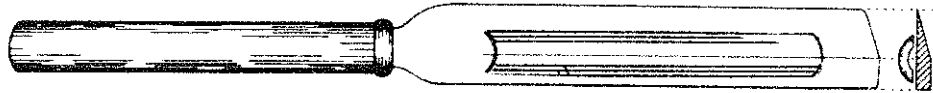

FIGURE 4
Splitting knives (Figure 4)
- o Using a long-handled knife (see Figure 4), cut **each** strip in half (see Figure 5). A strip of bamboo can be held on the blade to make it thicker and speed up the work.